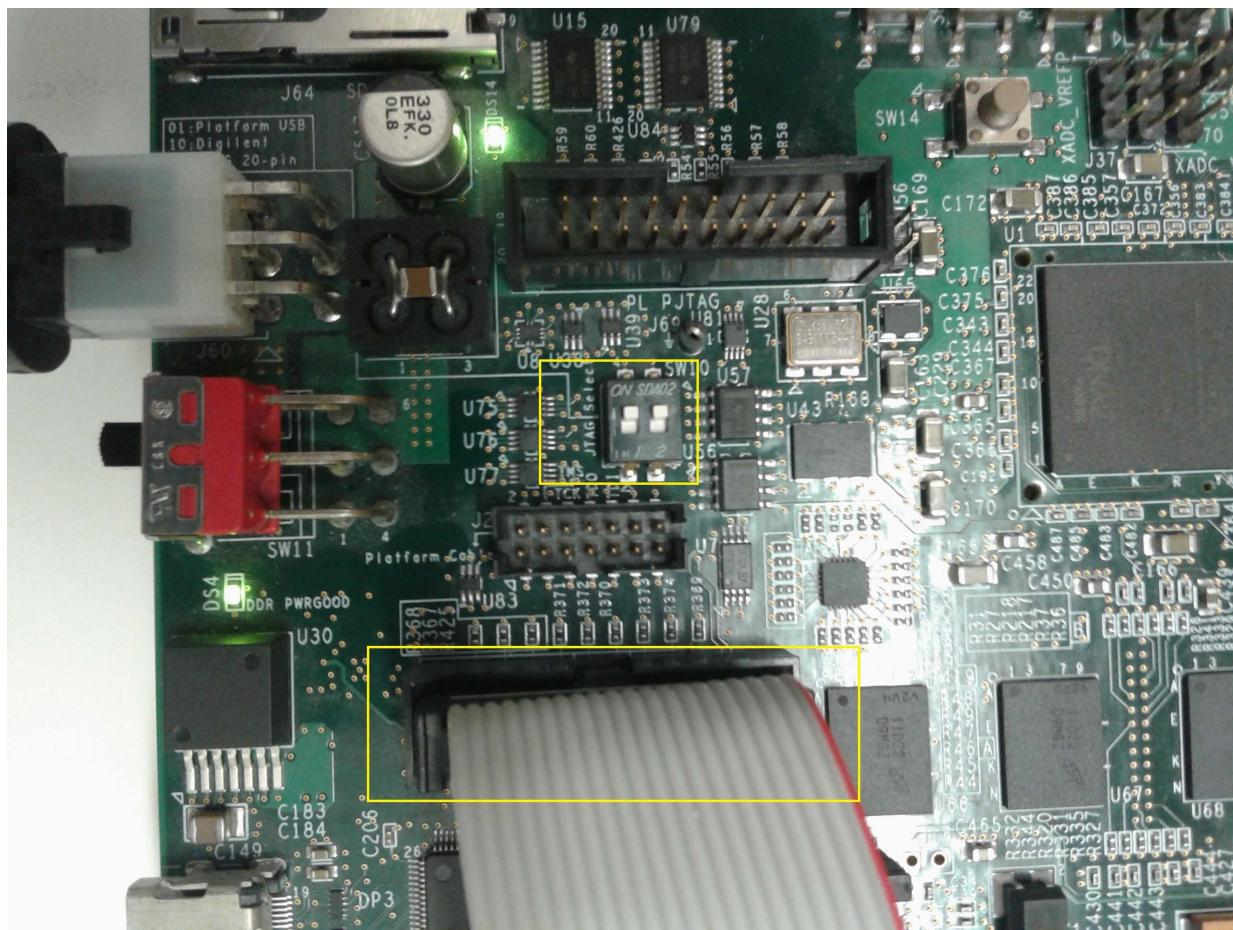

Figure 8: Debug Setup (on ZC702 Board)
1. Configure the JTAG chain as appropriate for your Zynq device board configuration. For example, on the ZC702 board, the JTAG chain must be configured in Cascade mode and mapped to J58. This is achieved by setting (SW10) as shown in Figure 8, below.